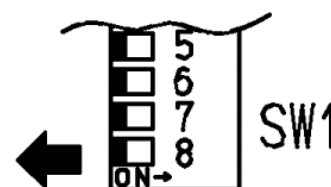

Fig. 5
16. Move switch No. 8 of SW1 to 'OFF' position (Fig. 5).